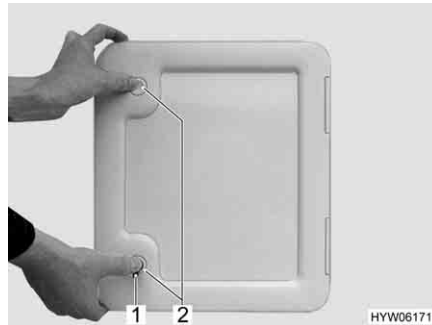

Fig. 32 Flap for toilet cassette
- Insert key into locking cylinder (Fig. 32,1) of the push-button lock and turn a quarter turn.
- Press both push-button locks (Fig. 32,2) simultaneously with your thumb and open the flap for the toilet cassette.
- Insert key into locking cylinder (Fig. 32,1) and turn a quarter turn.